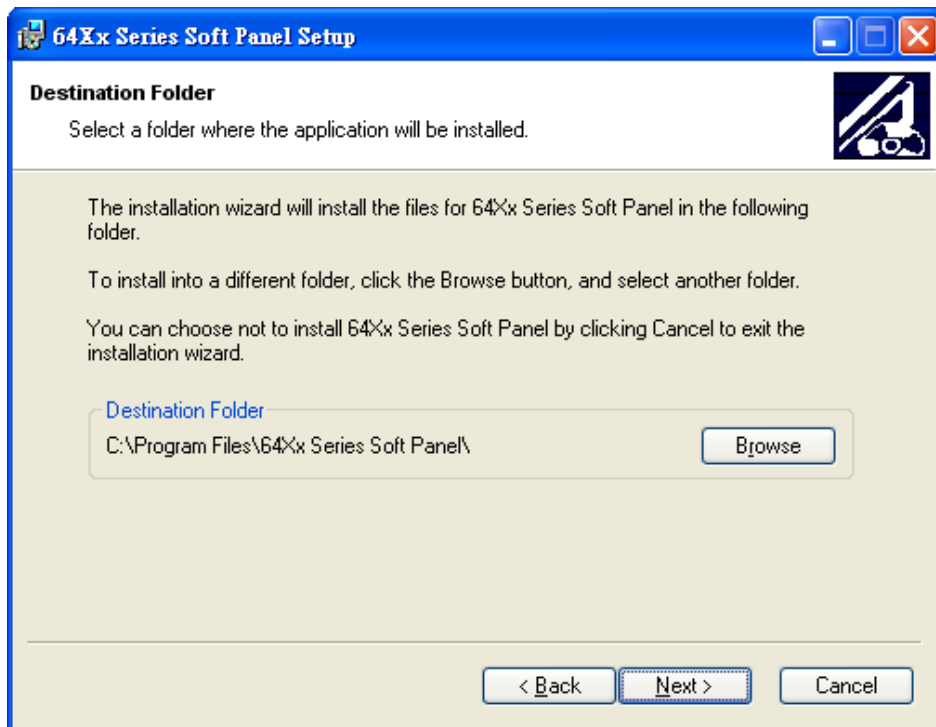

Figure 2-3 Setting the Installation Path for 64xx Series Soft Panel
Click **Next>** it will prompt the setup window as Figure 2-3 shows.
- As Figure 2-3 shows, the program is default installed in C:\Program Files directory. If the directory path needs to be changed, click **Browse** and specify the path for installation.